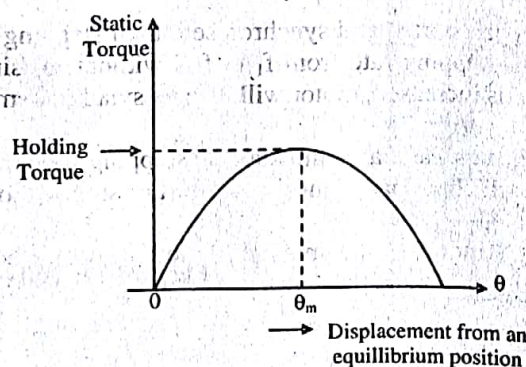

Figure 2.17: Torque Displacement Characteristics
- 1) **Torque Displacement Characteristics:** This gives relationships between electromagnetic torque developed and displacement angle from steady state position. These characteristics are shown in the figure 2.17.